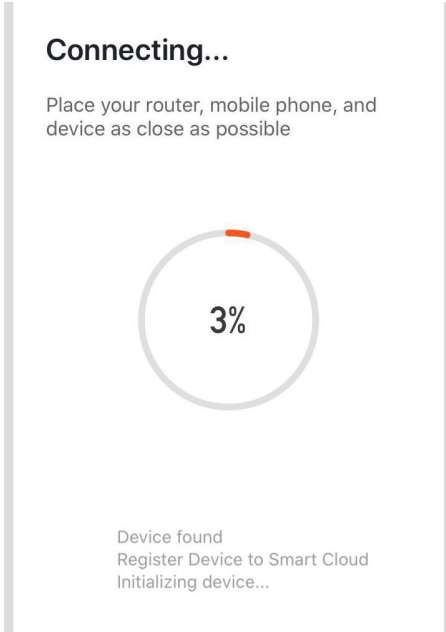

Fig 14
Step 9: Once you have successfully completed step 8, you will be redirected to “Connecting Now” page, where the App searches, registers and initializes the device (ref Fig 14). Once it is completed your device will be successfully paired.